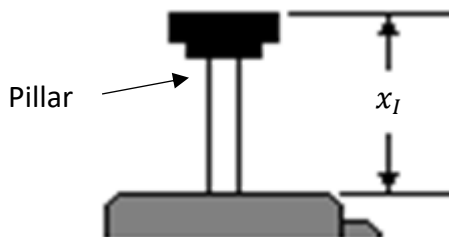

Figure 5 – Compression of Pillar
- B) After making sure that the spring is *not* compressed, measure the uncompressed length of the pillar  $x_I$ . See Figure 5. Place this value in the table.